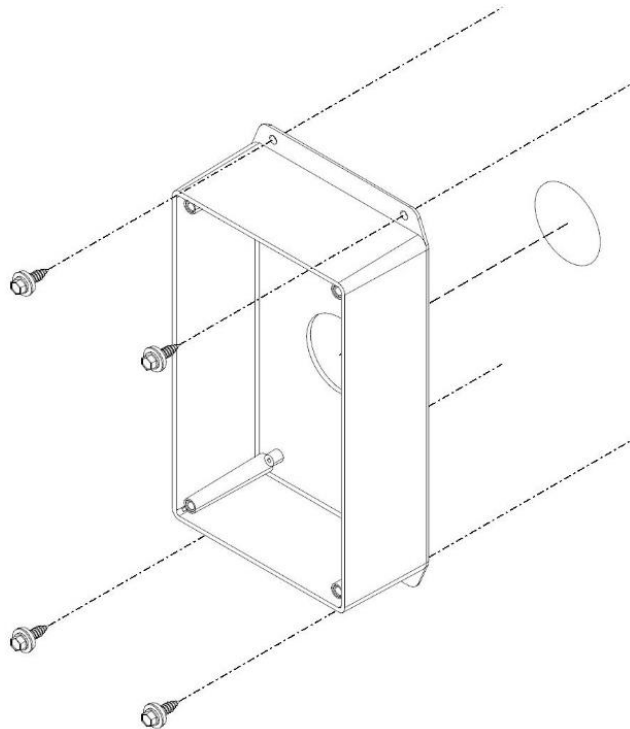

Figure 15: Installing the Interior Switch Housing
3. The base of the box has a 1 ¾ inch hole predrilled to mount over the hole in the wall. Make sure the box is centered over the hole and level before attaching it to the wall with 4 screws in the predrilled holes of the top and bottom flanges of the enclosure. Refer to Figure 15 for installation of the interior switch housing.